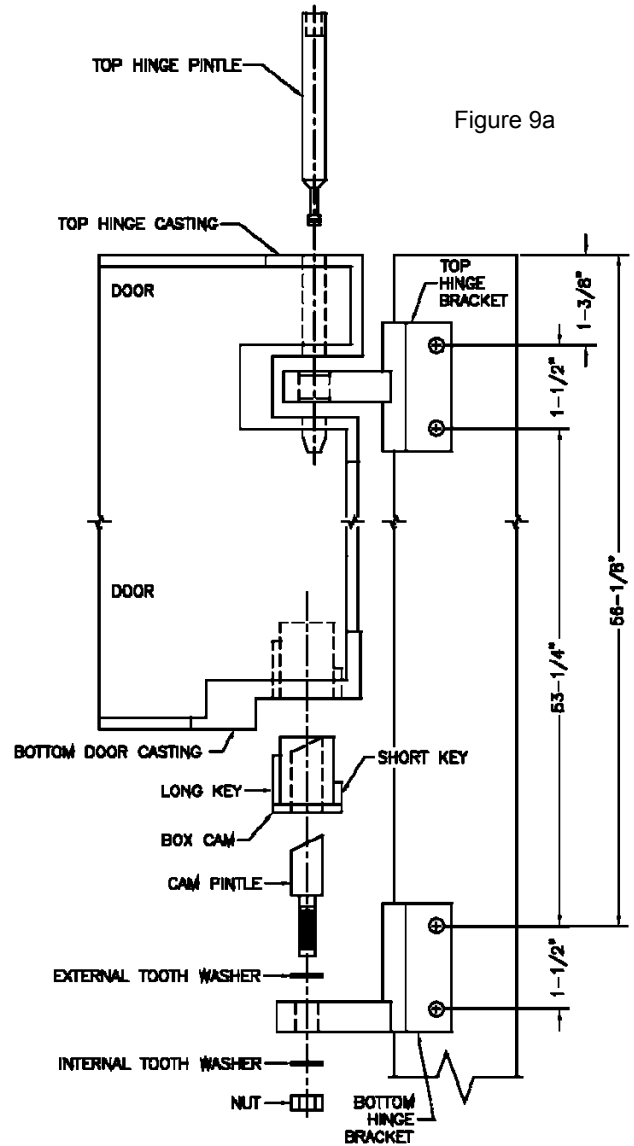

Figure 9a
- a. Attach top and bottom hinge brackets to pilaster with thru bolts (4-total). If pilasters were not pre-drilled at the factory, use dimensions shown in Figure 9a as a drilling ( $\frac{1}{4}$ " bit) guide.
- b. Assemble cam pintle, external tooth washer, internal tooth washer, and  $\frac{1}{2}$ " hex nut to the bottom hinge bracket as shown in Figure 9a and hand-tighten (to be wrench-tightened later).
- c. Insert box cam into bottom door casting as shown in Figure 9a, with short key pointing toward hinge side (edge) of door.
- d. Set door onto bottom hinge cam pintle. Bring door up so the top hinge casting is in line with the top hinge bracket as shown in Figure 9a. Insert the top hinge pintle and tap it down so it's flush with the top of the door.